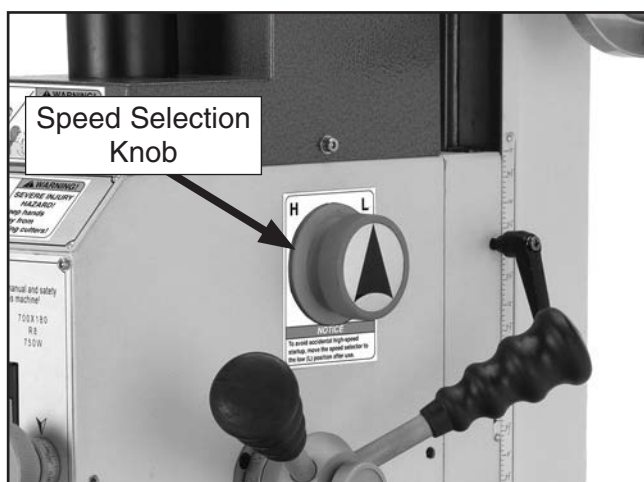

Figure 23. Speed selector knob.
2. Select the appropriate speed range using the speed range selector knob (see **Figure 23**). "H" represents the high speed range, which is capable of spindle speeds from 100–2250 RPM. "L" represents the low range, which is capable of spindle speeds from 50–1125 RPM.